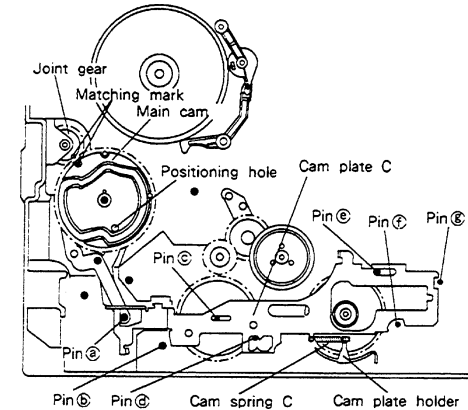

Fig. 2-15-2
- C. With care not to move the lever RS and lever C, assemble the main cam 1 to the shaft by lining the matching mark of the joint gear with the positioning hole of main plate. Secure the main cam 1 with the grip ring. (Refer to Fig. 2-15-2.)
- D. Assemble the thrust washer to the pin (c) shown in Fig. 2-15-2, and install the cam plate C so that the corresponding positions of the plate match the pins (a) to (g).
- E. Fasten the cam spring C to the cam plate C and the cam plate holder. (Refer to Fig. 2-15-2.)